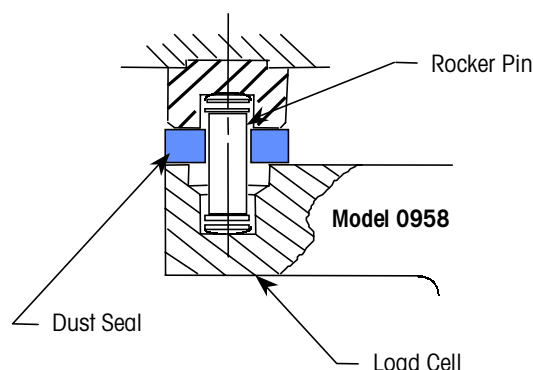

Figure 3-8: Centerlign Rocker Pin Arrangement
8. After securing all the top and base plates, slowly raise the weigh structure off the module and replace the alignment tools with the rocker pin suspension parts (Figure 3-8). Place a rubber O-ring on each end of the rocker pin. Lubricate the O-rings and both ends of the rocker pin with a high-quality grease, such as FEL-PRO Food Grade AA Anti-Seize Lubricant.